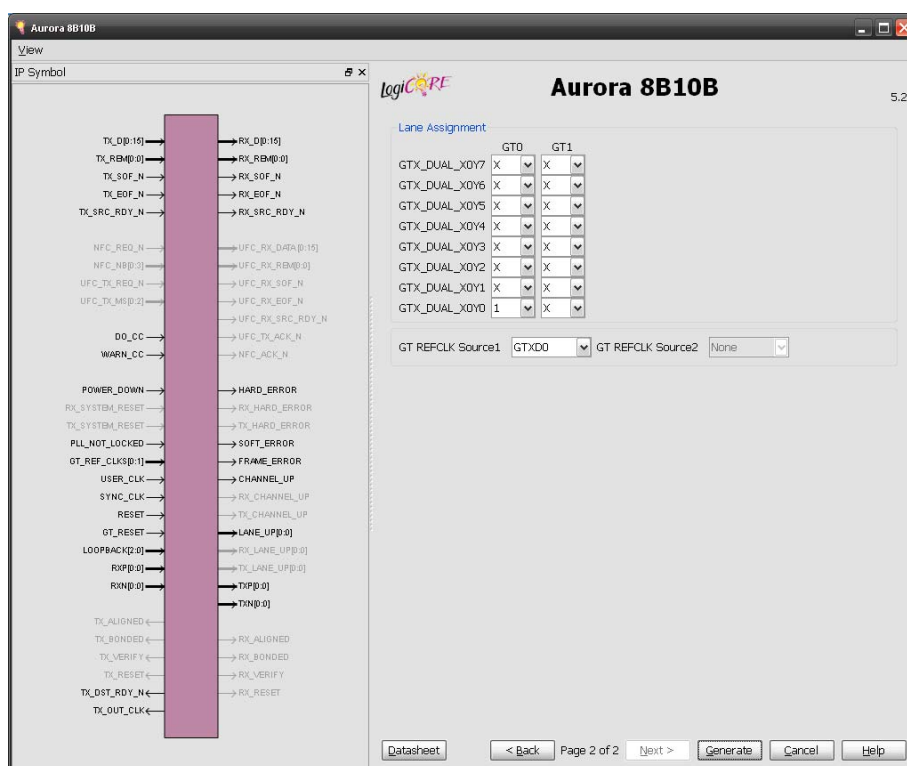

Figure 3-3: Second GUI Page for Virtex-5 FPGA RocketIO GTX Transceivers
- Figure 3-3, page 29 for Virtex-5 FPGA RocketIO GTX transceivers